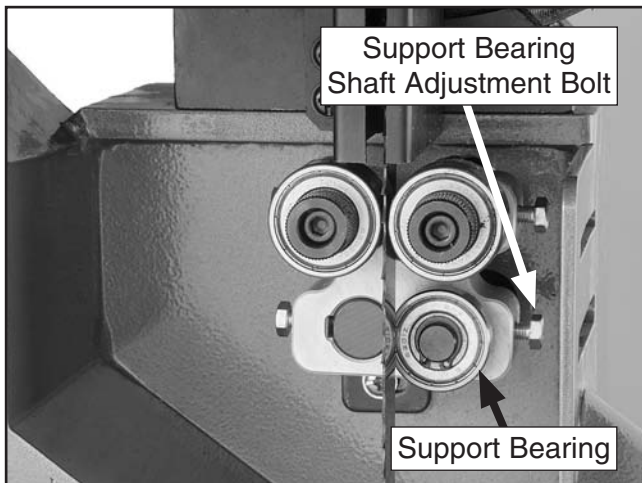

Figure 37. Lower support bearing controls.
3. Open both wheel covers, then familiarize yourself with the lower blade bearing controls shown in **Figures 37–39**.